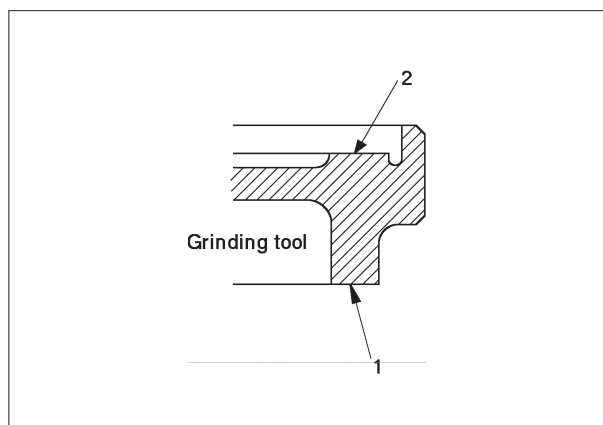

Fig 1.
Note! The grinding tool is used for both grinding the groove in the liner flange (1) and the sealing surface on the cylinder head (2), see Fig 1.